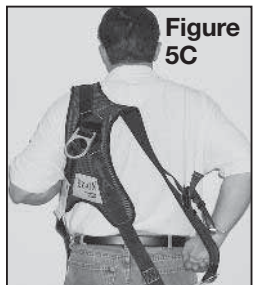

Figure 5C
STEP 2 (figure 5C) Grasp first one and then the other front shoulder strap, sliding them over your arms and into position on your shoulders. The D-ring pad should lie flat against your body with the back D-ring in an outward position and both letters "A" visible.